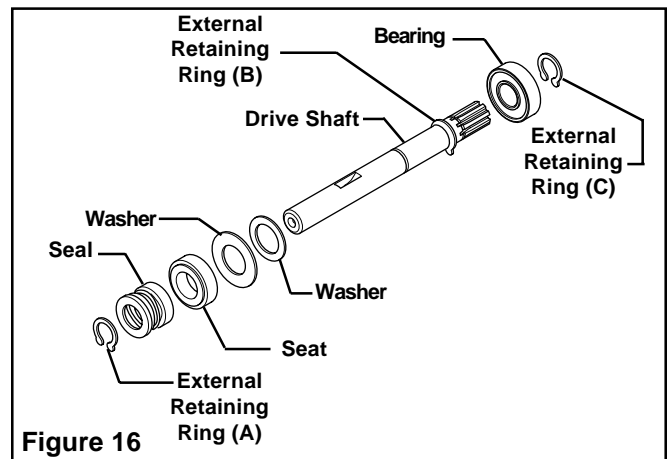

Figure 16
1. Press the new Bearing onto the Drive Shaft until it is against the External Retaining Ring (B); then, install External Retaining Ring (C) (See Figure 16).
2. Slide the Small Washer, Large Washer, Seat, and Seal onto the Drive Shaft; then install External Retaining Ring (A) (See Figure 16).